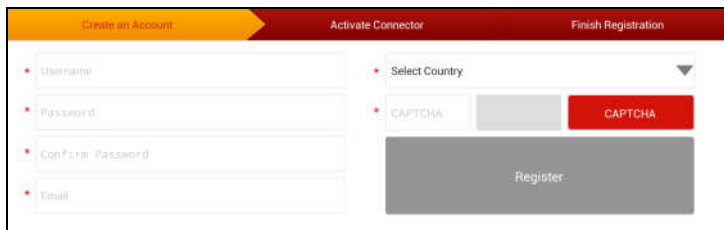

Fig. 4-3
1. If you are a new user, tap “New Registration” to enter registration page. See Fig. 4-3.
In Fig. 4-3, fill in the information in each field (Items with \* must be filled). After inputting, tap “Register”, a screen similar to the following will appear: